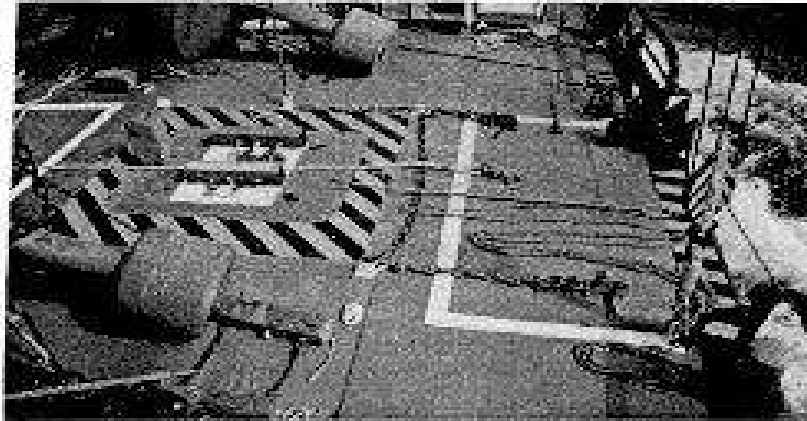

Fig. 8-1 Buoy deck layout when approaching a buoy
- (1) Check all buoys and equipment thoroughly before leaving the dock. Bench test all the lanterns and lamp changers, with a few extra of each characteristic, before sailing for a reasonable period to insure reliability.
- (2) Install the lanterns on the buoys early enough to insure they are functioning properly. A final quality check should be made at this time. This should make sure that the installation was done properly and the correct characteristic and lamp size used.
- b Beginning with and maintaining a clean, organized deck will help to keep the evolution safe. Lay out the blocking chocks, or saddles for the buoys in the positions in which it is planned to secure the buoys. Having regard for the location of available padeyes for griping down (see **Fig. 8-1.**)
Fig. 8-1 continued: Buoy deck layout when approaching a buoy